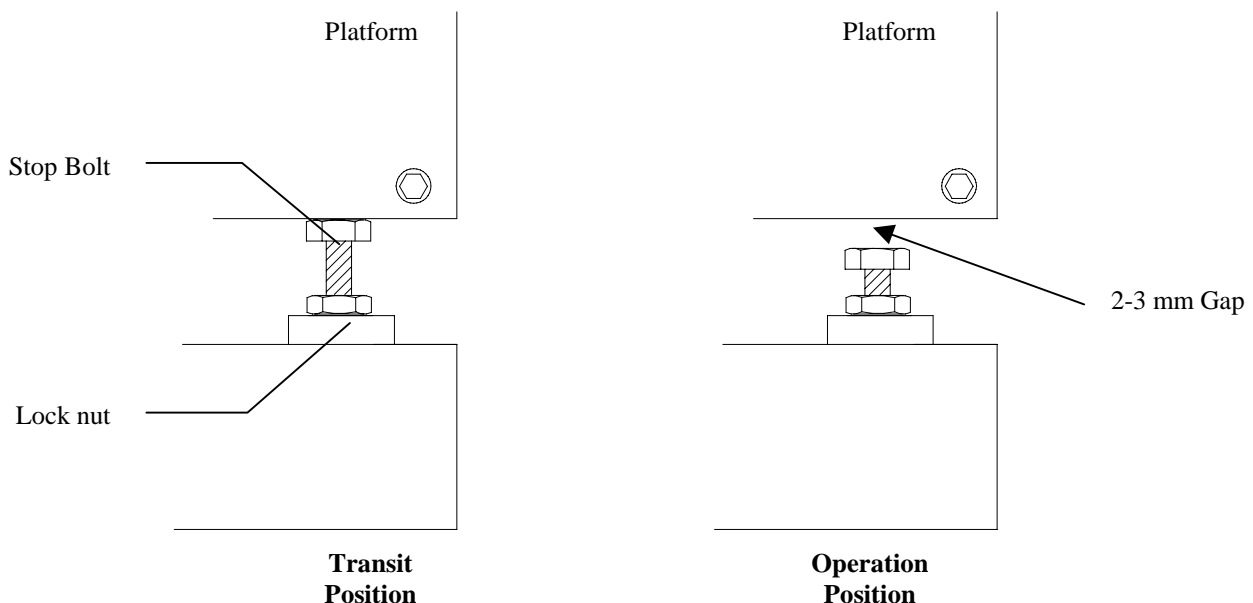

Figure 7.6 Overload Stop Adjustment
1. Refer to Figure 7.6. Loosen the lock nuts using a 13mm A/F spanner.